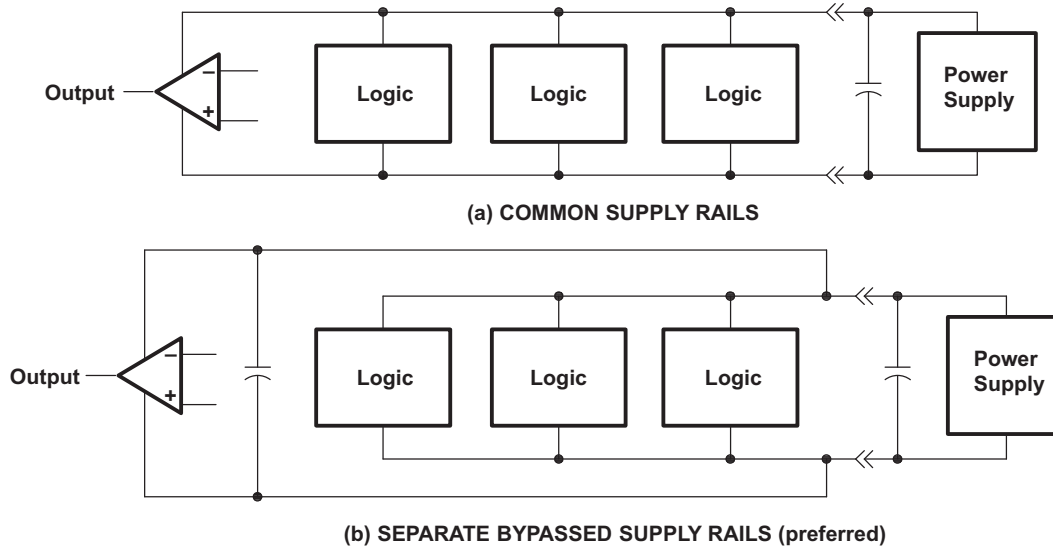

Figure 8-2. Common Versus Separate Supply Rails
1. Power the linear devices from separate bypassed supply lines (see Figure 8-2); otherwise, the linear device supply rails can fluctuate due to voltage drops caused by high switching currents in the digital logic.